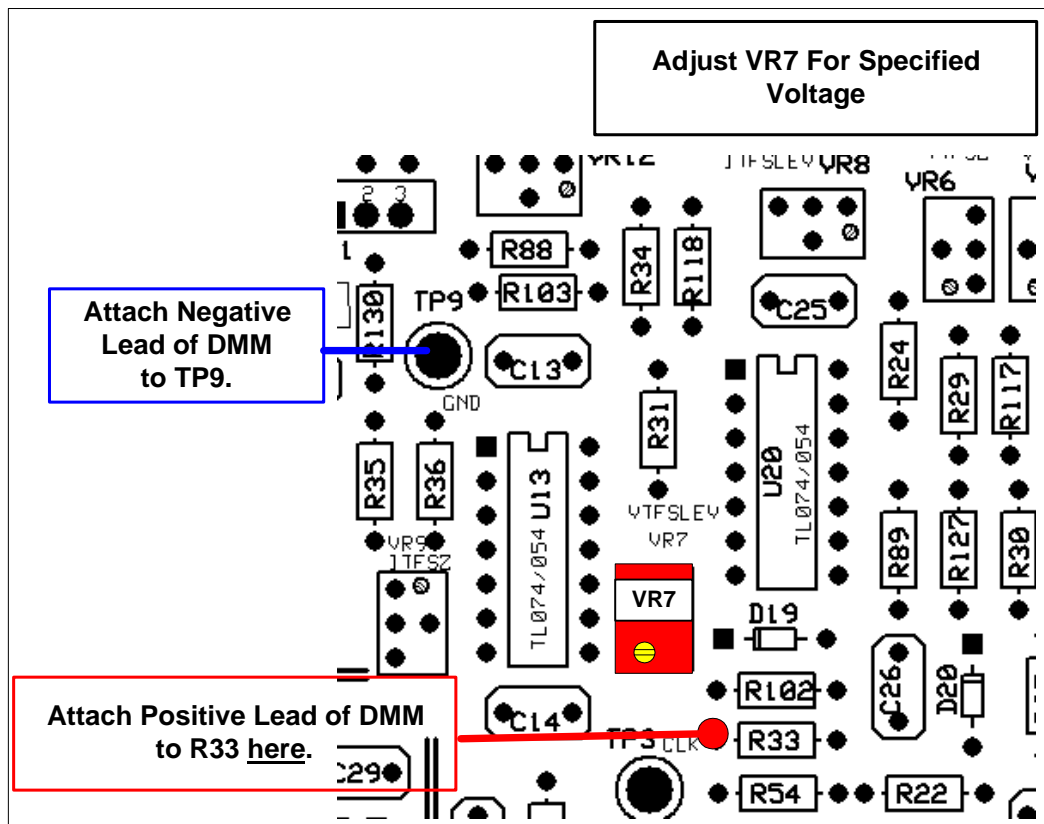

Figure 9-8: Initial Voltage TFS Range Calibration
6. Connect the positive lead of the DMM to the end of R33 indicated in **Figure 9-8** and leave the negative lead of the DMM attached to TP9.